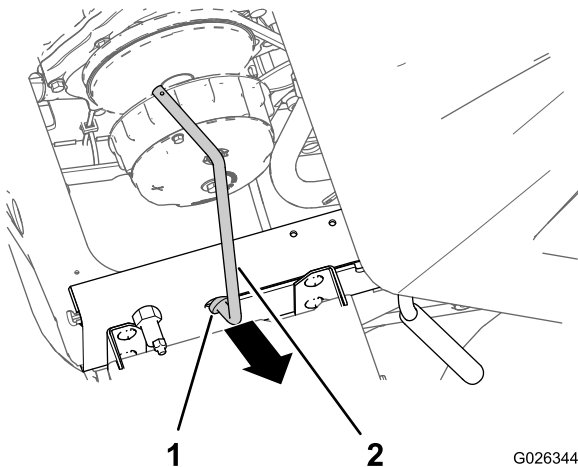

Figure 3
5. Slide the lower end of the prop rod to the forward end of the prop-rod slot in the left-frame channel or rod-support bracket of the machine (Figure 3).
6. Remove the prop rod through the key hole at the forward end of the slot for the prop rod (Figure 3).